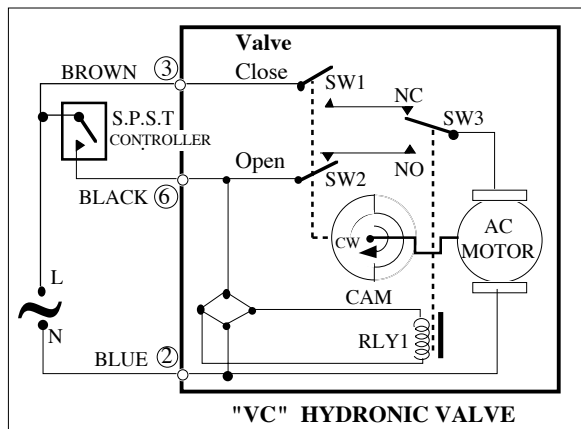

Figure 9 - Actuator wiring for SPST controller (Series 40 and 80).
**WHEN USED WITH SPST CONTROLLER** (Figure 9): On a call for heat, RLY1 is energized making the NO contacts in SW3, the valve opens. When the valve reaches the fully open position the cam operated SW1 closes and SW2 opens. When need for heat is satisfied,